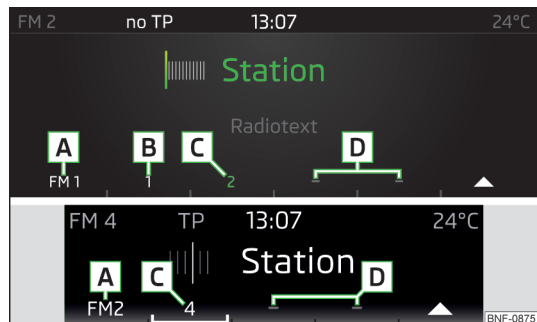

Fig. 102
- To **store channels**, select the storage group with the function button  » Fig. 102 and hold the desired station button.
Preset station buttons for favourite channels » Fig. 102